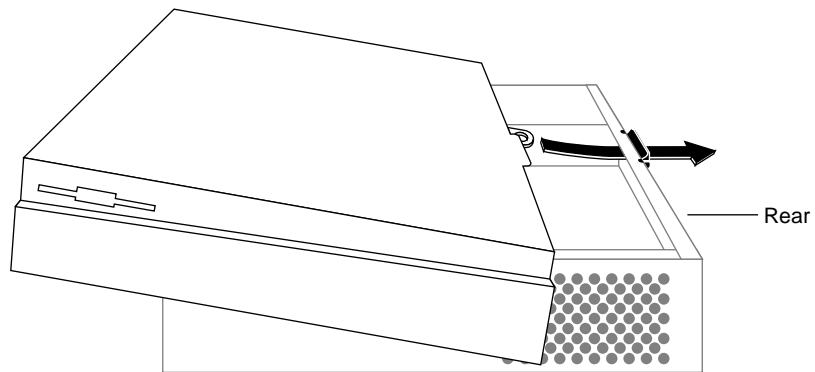

Figure 26 Replacing the top cover on the Indy workstation
1. Facing the front of the system, lower the cover a few inches from its fully closed position, as shown in Figure 26.